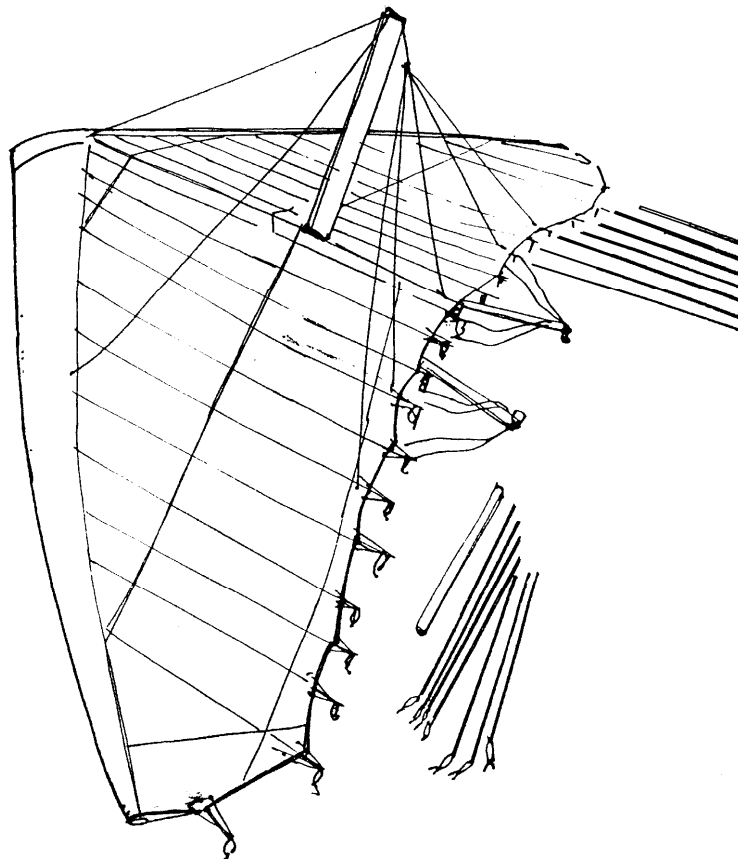

Fig.14
2.2.10. Spread the wings all the way and check all wires for twisted thimbles or tangs (Fig.14).
2.2.11. Remove the safety bags from the downtubes. Spread the downtubes. Install the framebar according to the marking. Fix the framebar using nuts and safety rings (Fig.14, 15).